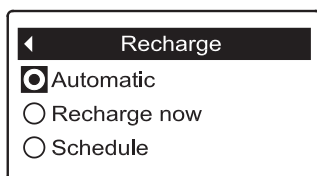

FIG. 115
4. Press the SELECT (O) button to display the Recharge menu (See Figure 115).